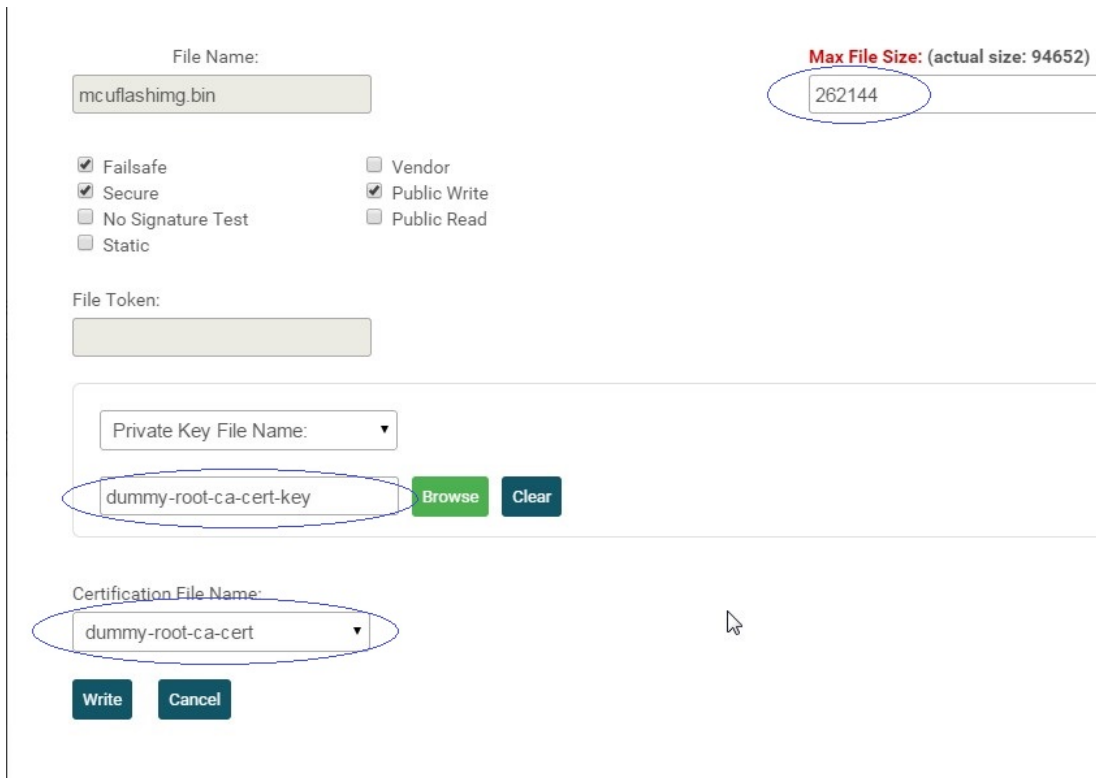

Figure 43. UniFlash Add Secured MCU Image
6. Add the created application binary to the Image Creator project (see Figure 43):